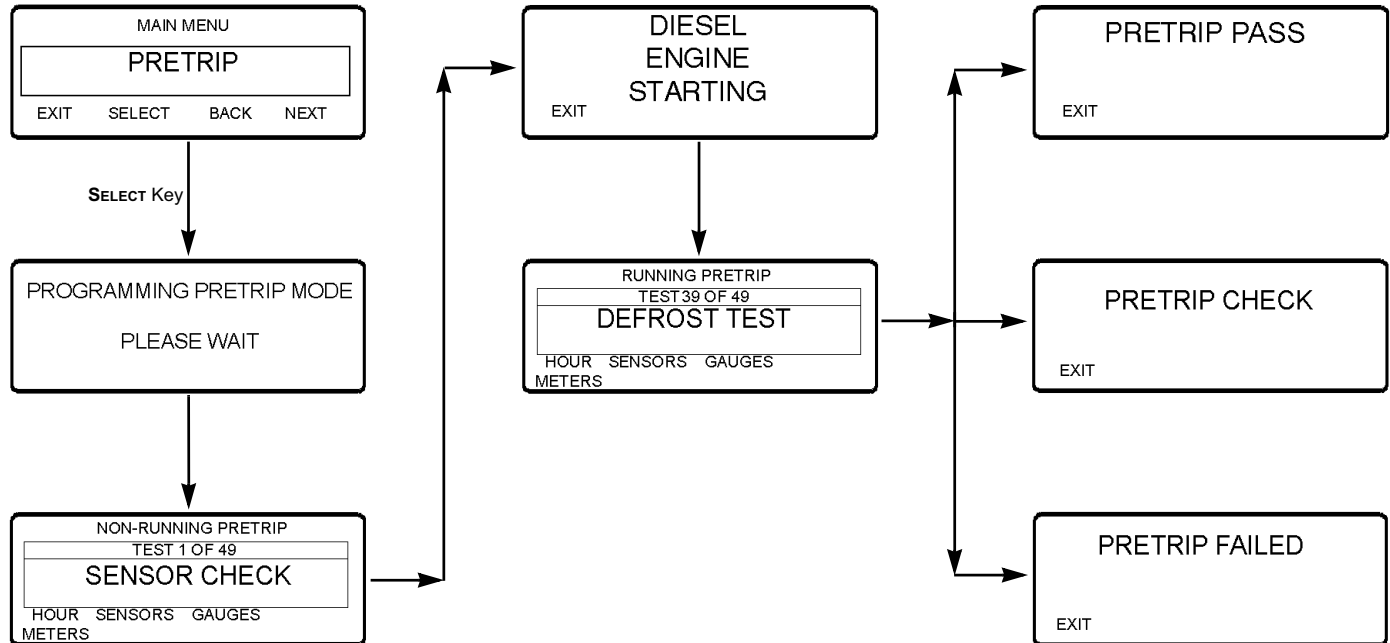

Figure 85: Pretrip Test Screen Sequence
4. Press the **NEXT** soft key until the Pretrip Screen appears. See Figure 85.
6. The Pretrip display appears. See Figure 85.